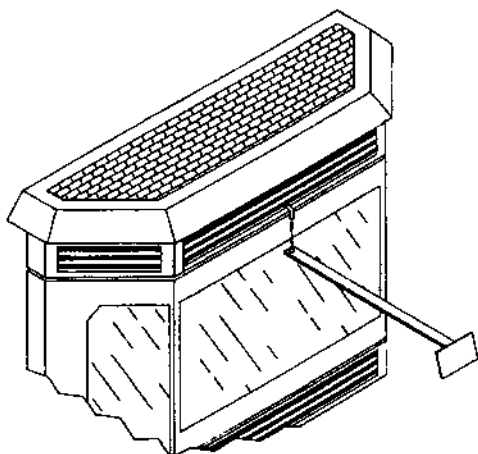

Figure 12
- b. Clean heat exchanger tubes (see section 4.2 and Figure 12).